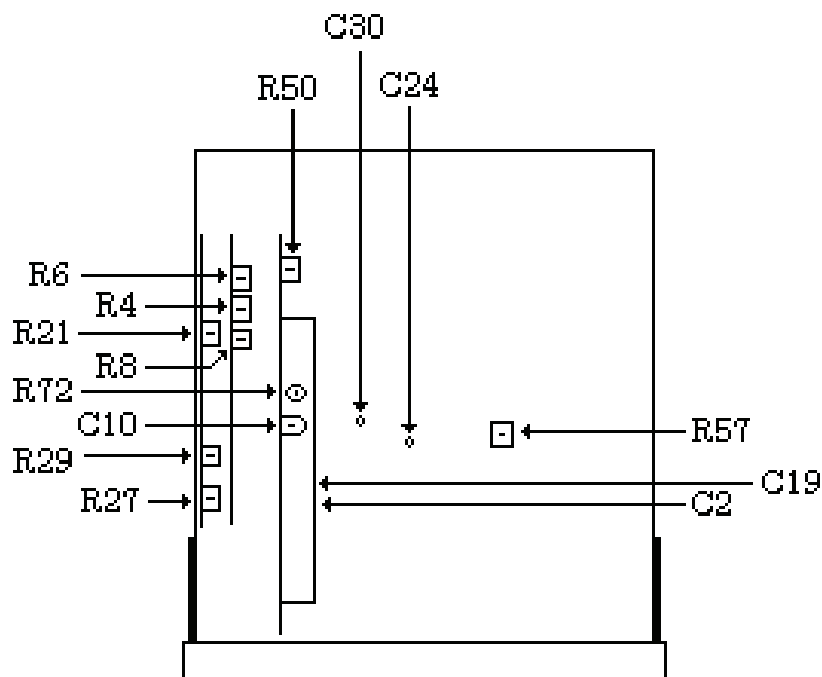

Figure 1. Test instrument – top view.
- (1) Set calibrator for a 1 MΩ output.
- (2) Press TI **RANGE 200mV** pushbutton.
- (3) Adjust C24 (fig. 1) until TI indicates between -00.01 and +00.01.
- (4) Set calibrator for a 190 mV dc output. Record TI indication.
- (5) Set calibrator for a -190 mV dc output. Adjust C30 (fig. 1) until TI indication is within ± 1 digit of indication recorded in (4) above. (R)
- (6) Repeat (1) through (5) above until no further adjustments are required.
- (7) Press **RANGE 2** pushbutton.
- (8) Set calibrator for a 1.9 V dc output. Adjust R57 (fig. 1) until TI indicates $+1.9000 \pm 1$ digit. (R)
- (9) Set calibrator for a -1.9 V dc output. Adjust R57 (fig. 1) until TI indicates -1.9000 ± 1 digit.
- (10) Repeat (8) and (9) above until no further adjustments are required.
- (11) Press **RANGE 20** pushbutton.
- (12) Set calibrator for a 19 V dc output. Adjust R4 (fig. 1) until TI indicates $+19.000 \pm 1$ digit. (R)
- (13) Set calibrator for a -19 V dc output. Adjust R4 (fig. 1) until TI indicates -19.000 ± 1 digit.
- (14) Repeat (12) and (13) above until no further adjustments are required.
- (15) Press **RANGE 200** pushbutton.
- (16) Set calibrator for a 190 V dc output. Adjust R6 (fig. 1) until TI indicates $+190.00 \pm 1$ digit. (R)
- (17) Press **RANGE 1200V** pushbutton.
- (18) Set calibrator for a 1000 V dc output. Adjust R8 (fig. 1) until TI indicates $+1000.0 \pm 1$ digit. (R)
- (1) Press **TI RANGE 2000kΩ** pushbutton.
- (2) Set calibrator **EX SNS** off, **2 wire Comp** off and output to 1 MΩ. Adjust R21 (fig. 1) until TI indication is within ±1 digit of calibrator output display indication rounded to TI digits of resolution. (R)
- (3) Press **TI RANGE 2** pushbutton.
- (4) Set calibrator for a 1 kΩ output, **EX SNS** on and **2 wire Comp** on. Adjust R27 (fig. 1) until TI indication is within ±1 digit of calibrator output display indication rounded to TI digits of resolution. (R)
- (5) Press **TI RANGE 20MΩ** pushbutton.
- (6) Set calibrator **EX SNS** off, **2 wire Comp** off and output to 10 MΩ. Adjust R29 (fig. 1) until TI indication is within ±1 digit of calibrator output display indication rounded to TI digits of resolution. (R)
- (1) Set calibrator to **STANDBY**.
- (2) Press **RANGE 1200V** pushbutton.
- (3) Simultaneously press **FUNCTION AC MA** and **DCV** pushbuttons. Adjust R72 (fig. 1) until TI indicates between -20 and -30.
- (4) Press **FUNCTION ACV** and **RANGE 2** pushbuttons.
- (5) Set calibrator for a 1.9 V, 500 Hz output. Adjust R50 (fig. 1) until TI indicates 1.9000 ±5 digits (R).
- (6) Press **RANGE 200** pushbutton.